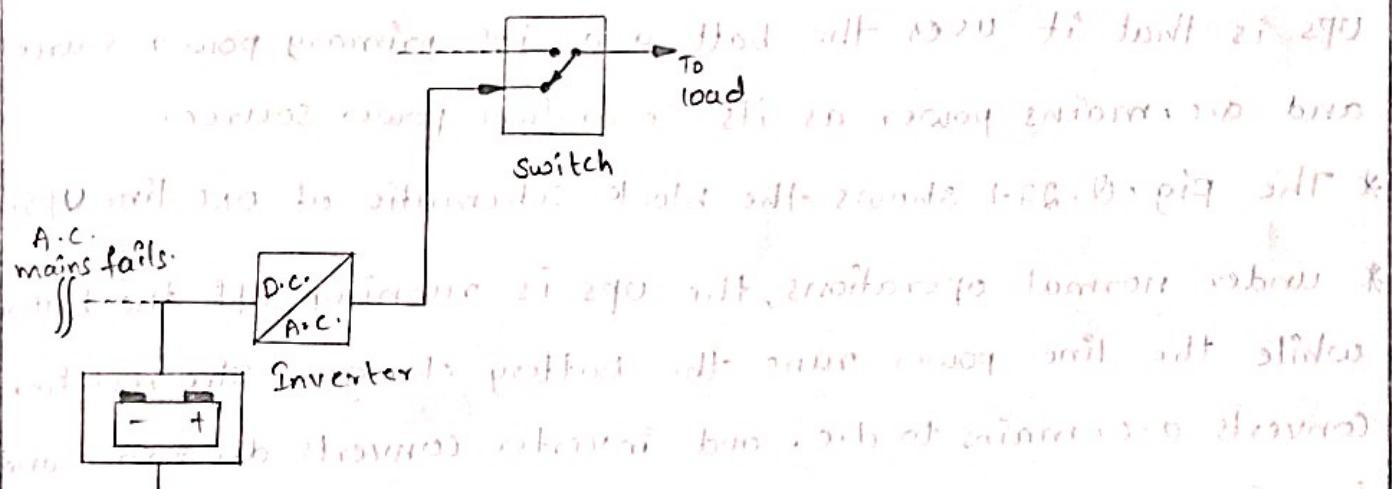

Fig. Q.27.2 Path when A.C. mains fails.
* Under normal operations, the UPS is running off the battery while the line power runs the battery charger. The rectifier converts a.c. mains to d.c. and inverter converts d.c. to a.c. and is given to the load. Thus there are two conversions in this type of UPS hence it is called double conversion ON line UPS. As inverter is always working in normal conditions, it is also called inverter preferred. The normal operation path is shown by dark line in the fig. Q.27.2.
a case. This path is shown in the fig. Q.27.2 The time required by UPS to transfer on battery is called transfer time which is important characteristics of UPS. But in ON line
* Now let us understand the importance of the secondary power path. It is shown dashed in the fig. Q. 27.2. It comes into the action if the inverter fails. The transfer switch automatically changes from position 1 to position 2, to switch the load on a.c. mains. The spike protector protects the load from position 1 to position 2, to switch the load on a.c. mains. The spike protector protects the load from surges in line power and filters them out. In this switch over, transfer time is important which should be as small as possible. But in practice, main power failures are much more common than the inverter failure.